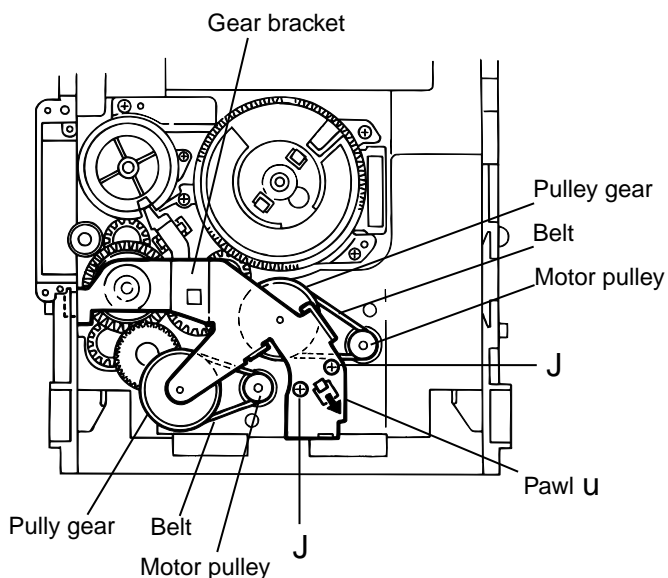

Fig.19
(See Fig.19 to 22)
1. Remove the two screws J retaining the gear bracket (See Fig.19).
2. While pressing the pawl "u" fixing the gear bracket in the arrow direction, remove the gear bracket (See Fig.19).
4. Remove the belts respectively from the right and left actuator motor pulleys and pulley gears(See Fig. 19).